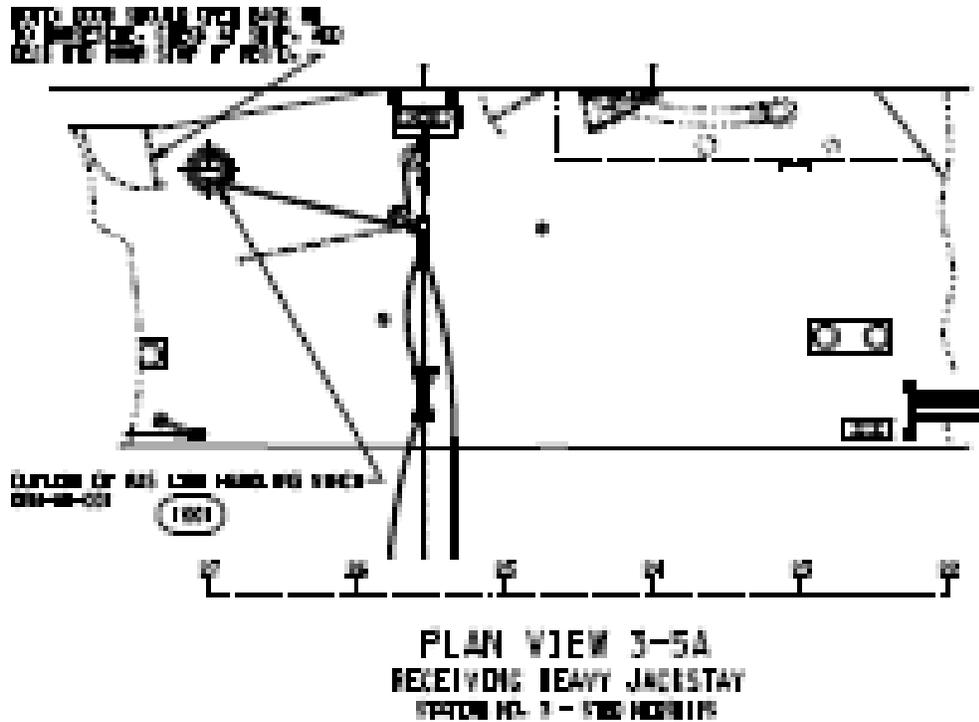
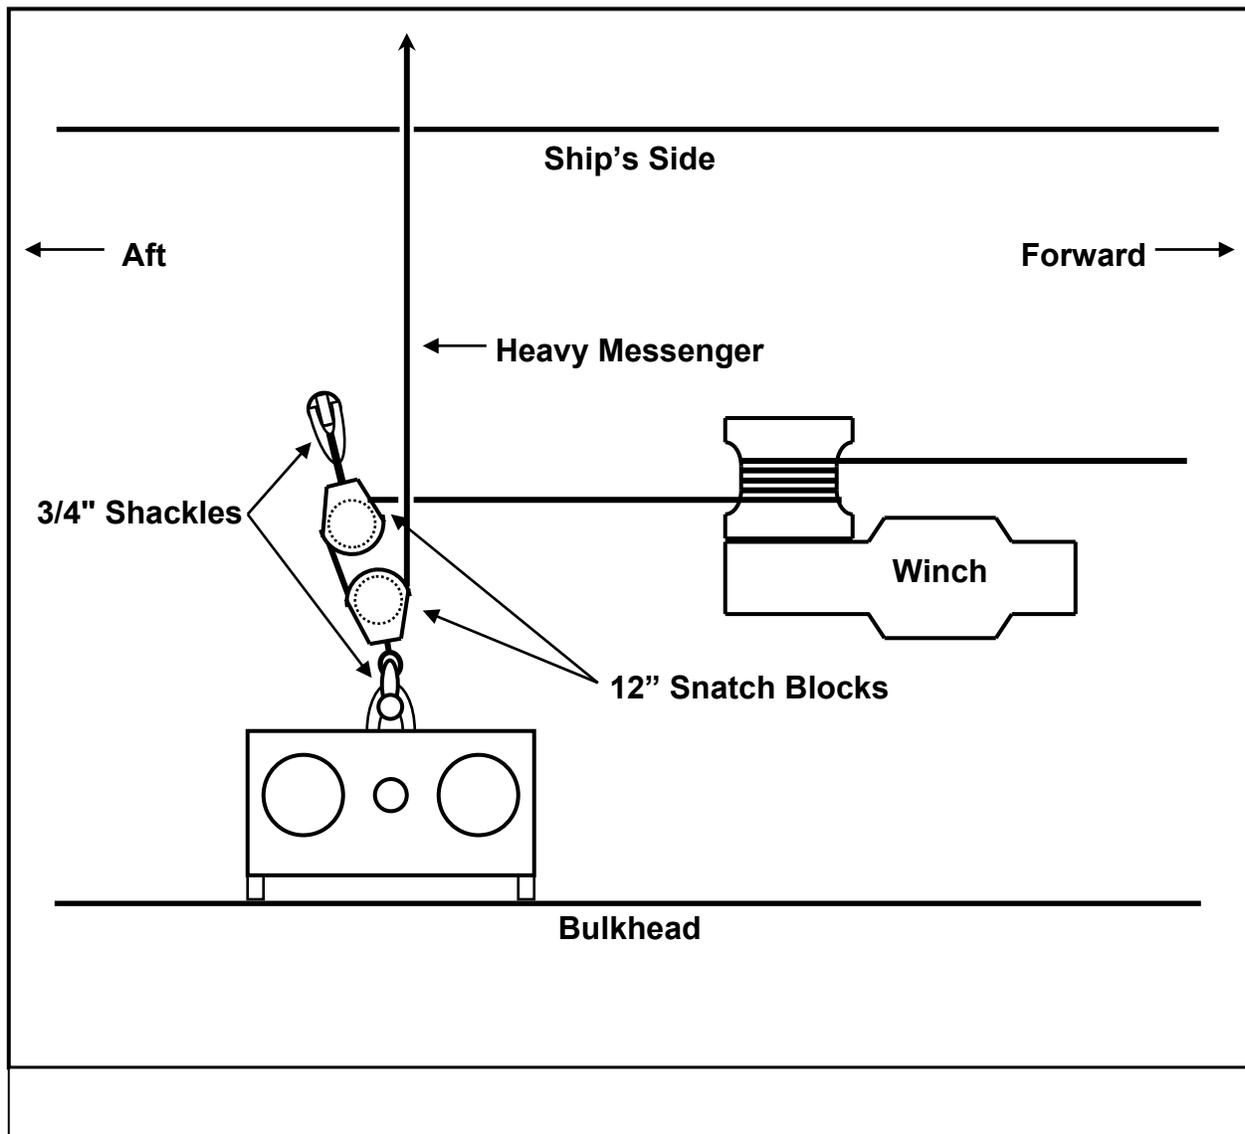

Figure 9.22-13 - Heavy Jackstay Station 3
Figure 9.22-14 – Heavy Jackstay Station 4
- b. **Station 3 Heavy Jackstay General Layout.** The bulkhead mounted sliding padeye receiving unit is located on top part ship. The remaining gear is laid out as follows [see Figure 9.22-13]:
- (1) The upper 12" snatch block is shackled to the eye directly under the elongated link on the stream adapter plate.
- (2) The lower 12" snatch block is shackled to reversible padeye No. 23 ® (old), No. 25 ® (new) as indicated in the diagram. [See Figure 9.22-14.]
- (3) The easing out pendant is secured to the staple on the sliding padeye. When rigged, it is led through the eye of the slip on the highline and secured to the cleat on the sliding padeye.
- (4) The line-handling winch is located aft of the station. A tag line is passed from the station to the bridge to facilitate passing the telephone/distance line to the bridge.